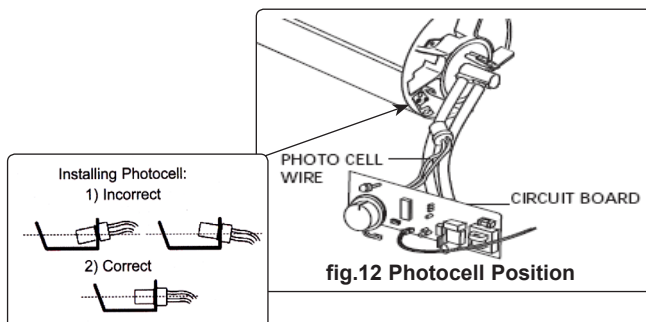

fig.12 Photocell Position
6.7 Flame-out device. The AB heaters are fitted with a flame-out device (a photocell, see fig.12), which cuts the fuel supply should the flame be inadvertently extinguished, or if the unit overheats. If this happens, switch off the heater and unplug from the mains supply. Check the heater to determine the fault. In particular check that the air intake is not obstructed and that the internal fan is rotating freely. Wait a few minutes and restart the unit. If the problem persists contact your local Sealey Service Agent.